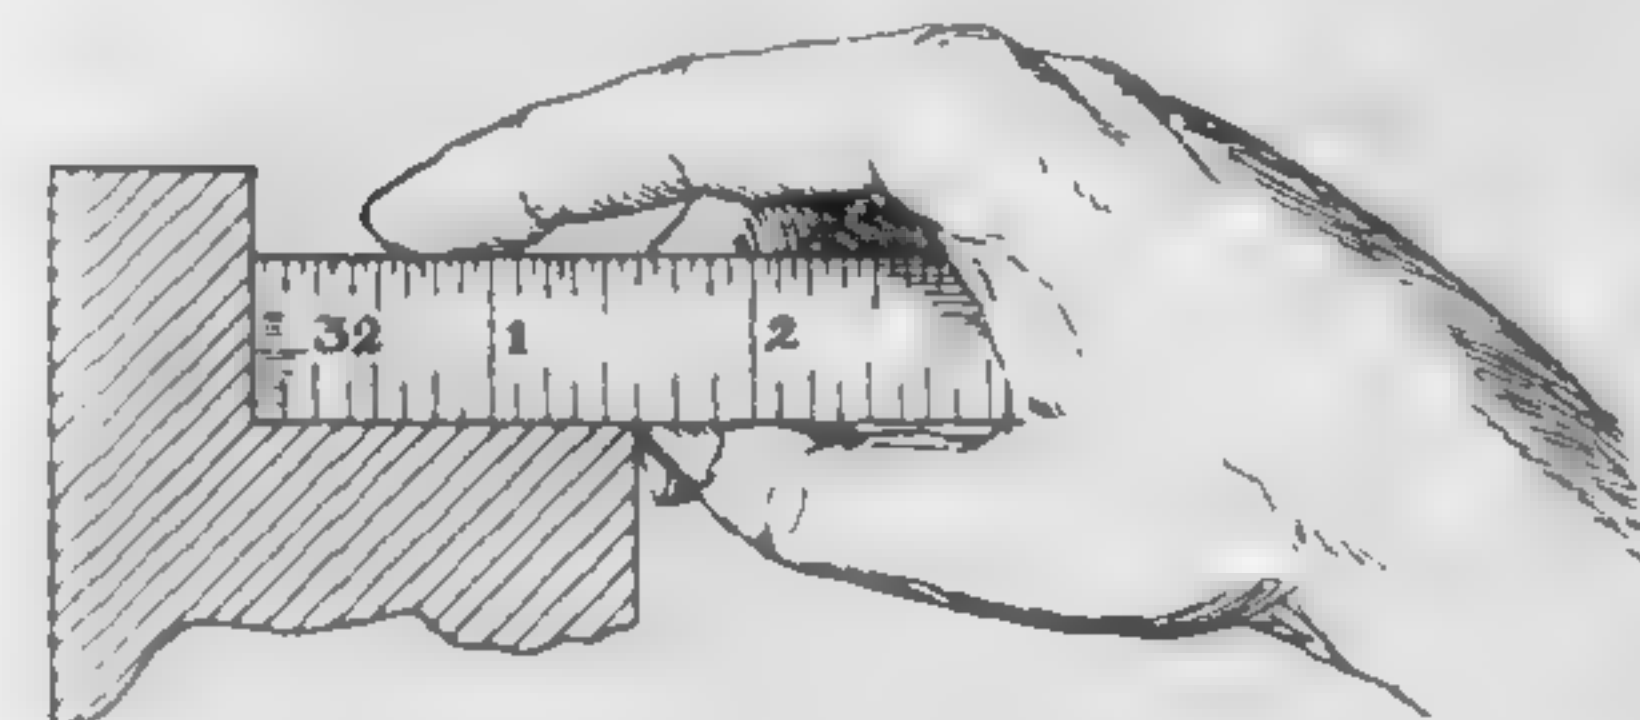

Fig. 6. Using a Rule
4. Always measure stock at right angles. See Figs. 6, 7, and 8.